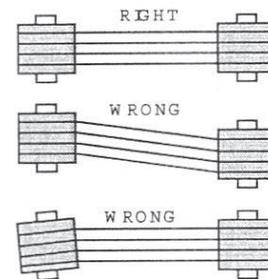

Fig. 3.9 - Correct pulley alignment
**RUNNING:** To avoid needless radial stresses on the bearings it is imperative that shafts are parallel and the pulleys perfectly aligned. (Figure 3.9).